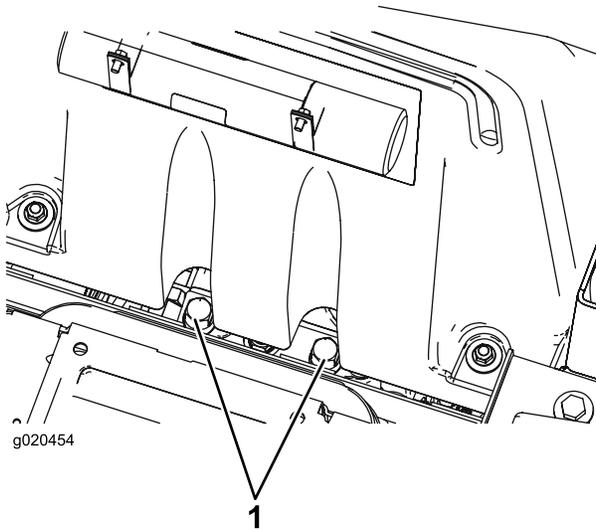

Figure 36
1. Raise the seat and locate the bypass valves, which are located below the front of the fuel tank (Figure 36).